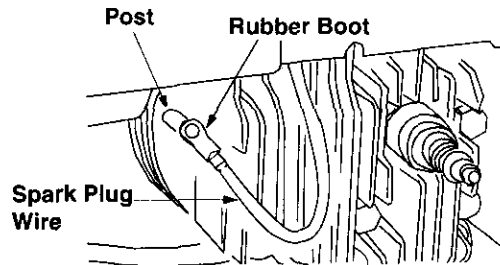

Figure 2
ground it against the post on the engine. See Figure 2.
- Attach spark plug wire and ground to post on engine. Make certain the metal cap on the end of the spark plug wire is fastened securely over the metal tip on the spark plug. See Figure 2.